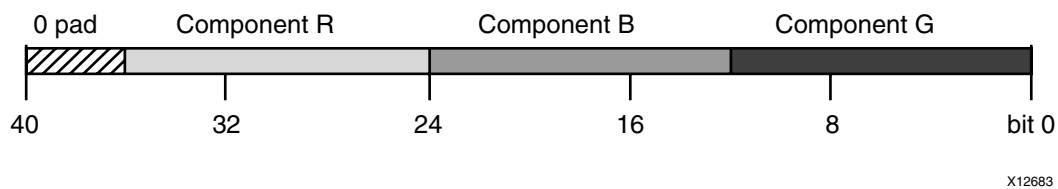

Figure 2-2: RGB Data Encoding on m\_axis\_video\_tdata
**Note:** When ACLKEN (clock enable) pins are used (toggled) in conjunction with a common clock source driving the master and slave sides of an AXI4-Stream interface, to prevent transaction errors the ACLKEN pins associated with the master and slave component interfaces must also be driven by the same signal (Figure 2-2).